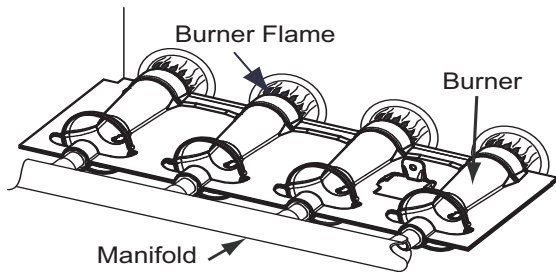

Fig. 24 – Burner Flame
NOTE: Gas valve regulator seal cap **MUST** be in place when checking input rate. When correct input is obtained, main burner flame should be clear blue, almost transparent (see Fig. 24). Be sure regulator seal cap is in place when finished.
8. When correct input is obtained, main burner flame should be clear blue, almost transparent (see Fig. 24).
13. When correct input is obtained, main burner flame should be clear blue, almost transparent (see Fig. 24).
15. Turn setup switch SW1 (TT) on furnace control to OFF position.
NOTE: When correct input is obtained, main burner flame should be clear blue, almost transparent (see Fig. 24).